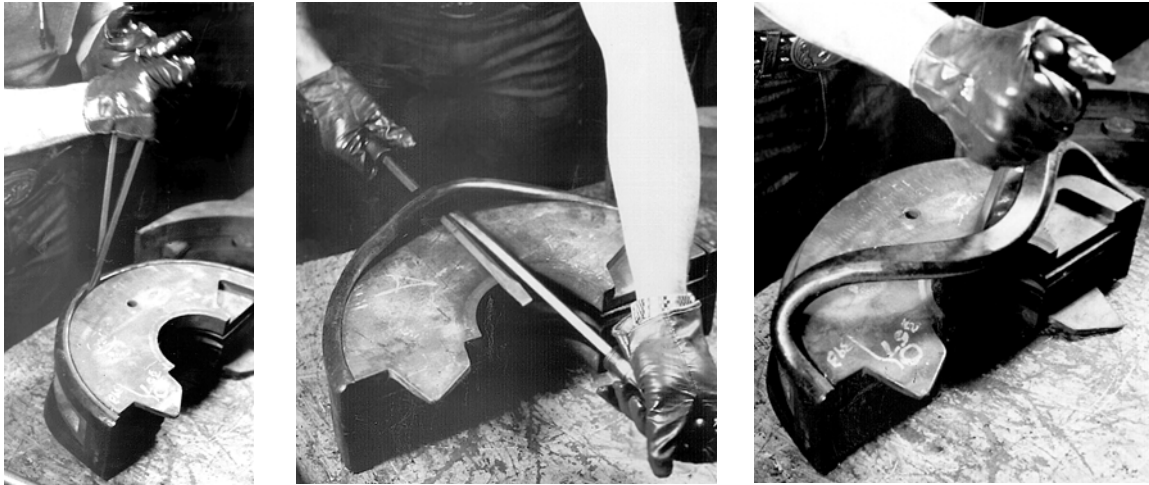

Figure 4-16. Removing the Ram Rubber
5. Remove the rubber from around the back side of the block as shown in Figure 4-16. Remove this rubber from both sides of the ram block.